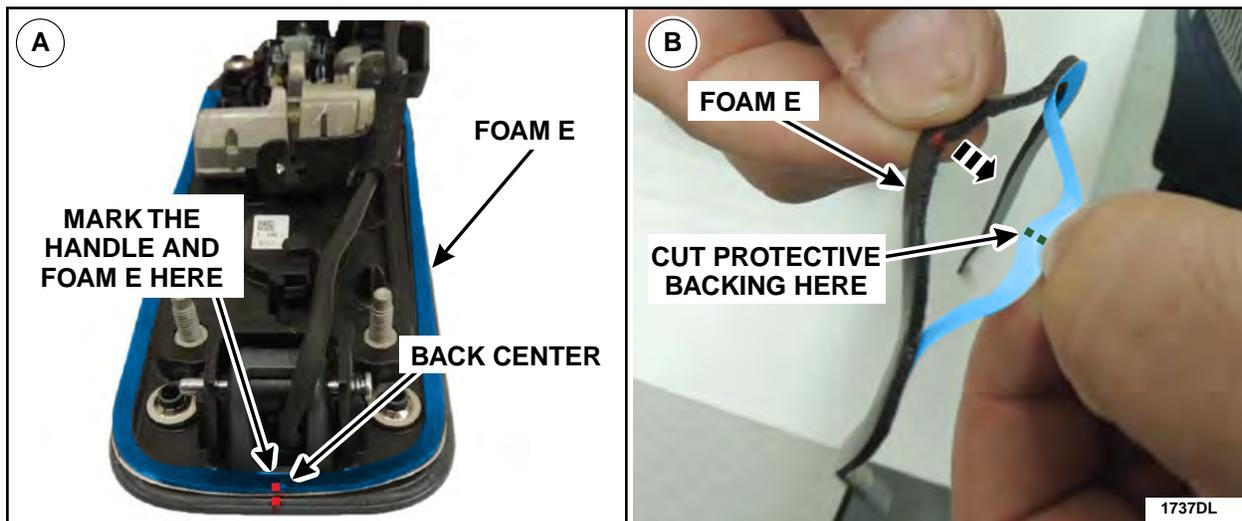

FIGURE 45
- A. Lay out Foam E on the exterior door handle and mark center as shown in Figure 45.
- B. Remove Foam E from the door handle and remove the back center portion of the adhesive backing then cut the protective backing in half. See Figure 45.